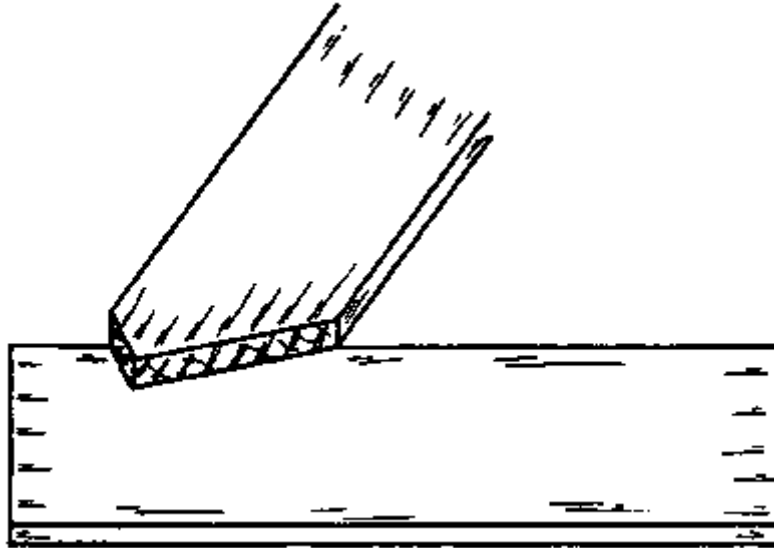

Fig. 2 (p)
- p. Place each brace in position and mark out the positions on the ledges (Fig. 2).